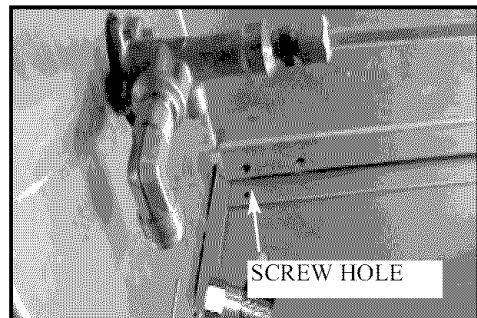

Fig. 20
2. Lock the Side Burner in place by re-inserting (2) hex head screws in the front & rear edge of side burner. (See Fig. 20)